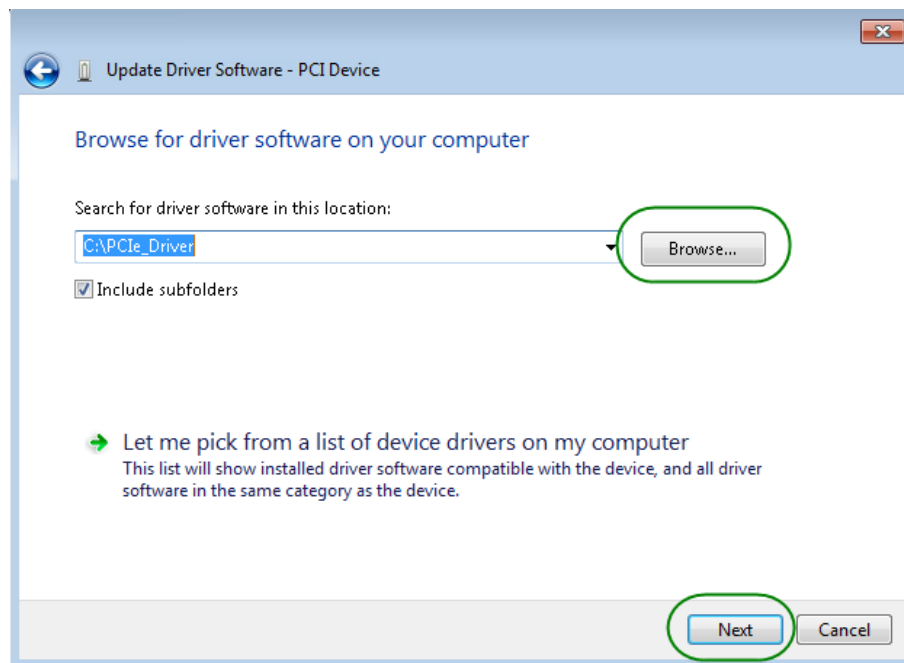

Figure 7-5 Browse for driver software on your computer
7. In the **Browse for driver software on your computer** dialog, click the **Browse** button to specify the folder where altera_pcie_win_driver.inf is located, as shown in **Figure 7-5**. Click the **Next** button.